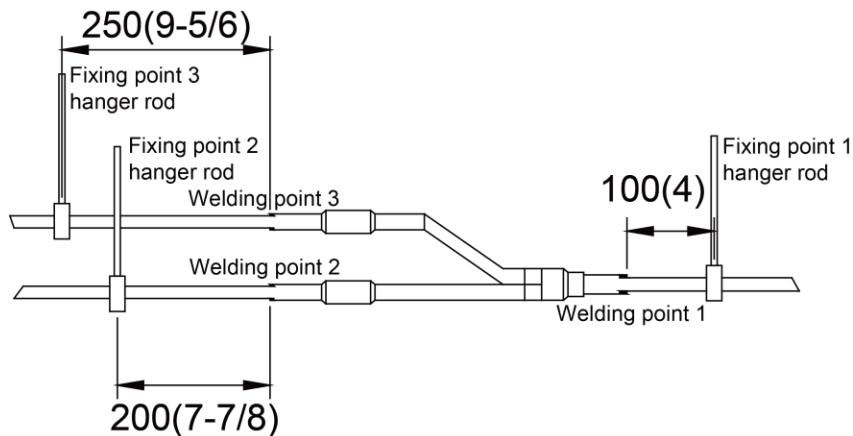

Fig.4.25
- (4) There must be three fixing point for both horizontal and vertical installation of the Y-type manifold. See Fig.4.25.